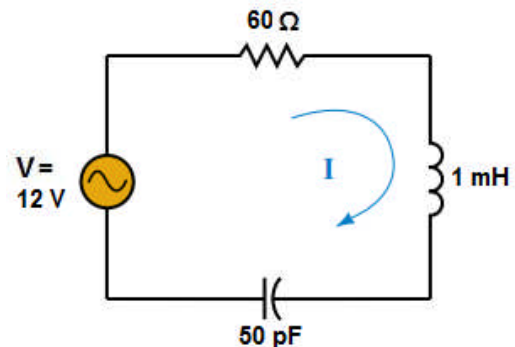

Fig. 2.3-18 Series Resonance Circuit
1. For the circuit shown in Fig. 2.3-18, find: X_L , X_C , Z and I at resonance frequency